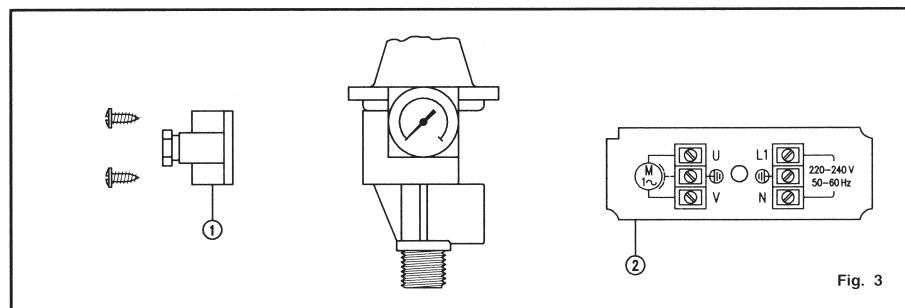

Fig. 3
Verify the connections according to Fig. 3 of installation guide.
## BRANCHEMENTS ELECTRIQUES (FIG.3)
- Vérifier raccordements selon schéma FIG.3